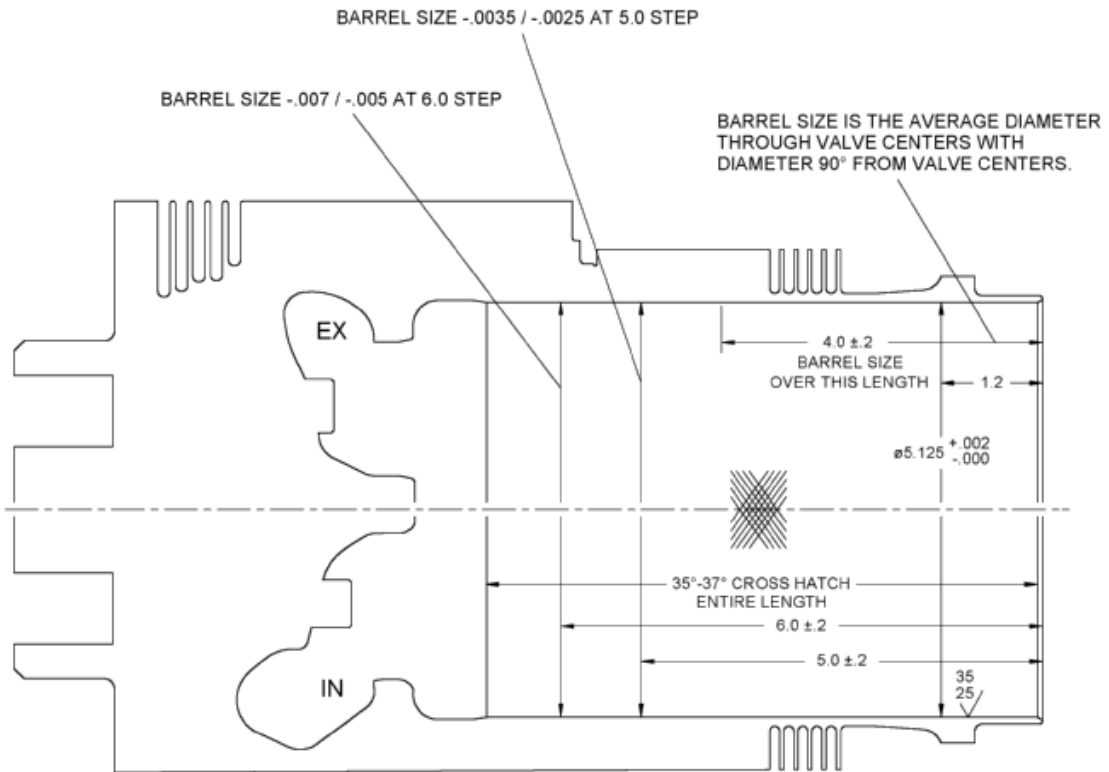

Figure 72-00-12.1 • Cylinder Interior Resurface Crosshatch
NOTE: The surface finish must be properly crosshatched along the entire length of the barrel. The crosshatch pattern must be 35°-37° from a line parallel with the cylinder base. Refer to Figure 72-00-12.1.
- (1) For cracks in the fin, it is permissible to drill a 0.19 in diameter hole (a stop drill) at the end of the crack provided the crack is at least 0.25 in. from the root of the fin.
- (2) For fins cracked almost all the way across, it is permissible to remove a portion of the fin as follows. Refer to Figure 72-00-12.2.
- (3) For damaged, cracked, or broken fins, it is permissible to perform the following repairs:
- (4) It is recommended that a fluorescent penetrant inspection be performed upon completion of any of these repairs.